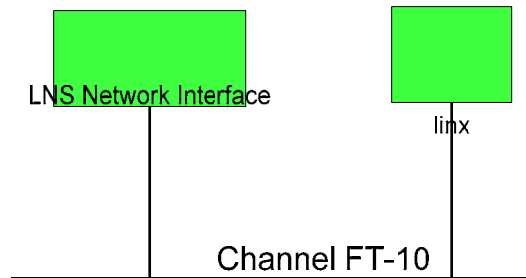

Figure 69: The LINX-10X has been added to the drawing.
10. Finally, you should get the device added to your drawing as depicted in Figure 69.